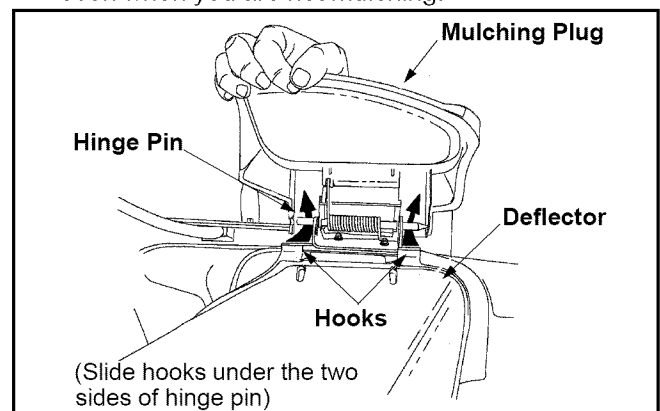

Figure 7
- Make sure the grass catcher is off the unit and the rear discharge door is closed. Refer to Figure 7.